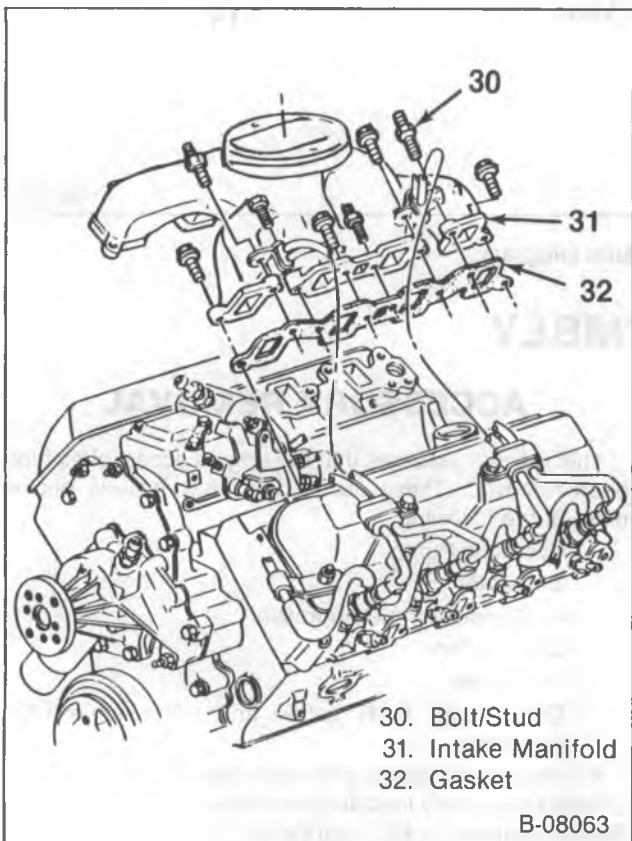

Figure 3—Intake Manifold
- ↔ Remove or Disconnect (Figure 3)